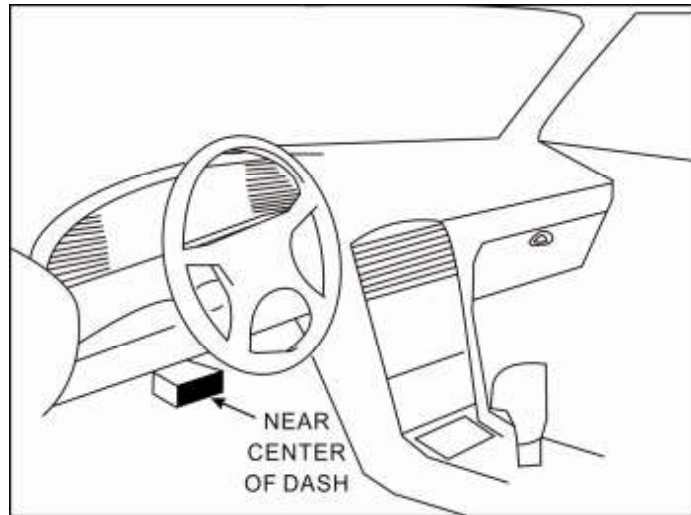

Figure 2-2
2. Locate vehicle's DLC socket: Refer to Fig. 2-2 for the location. In case no DLC is found, please refer to Automobile Repair Manual.